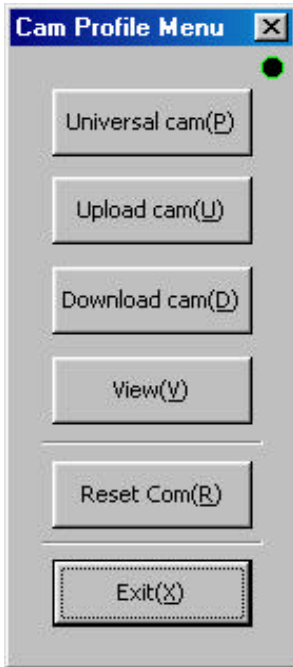

Figure 7.48 “Cam Profile Menu” dialog box
Click *“Parts (C)”* under *“MainMenu”* to display the *“Cam Profile Menu”* dialog box (see Figure 7.48).